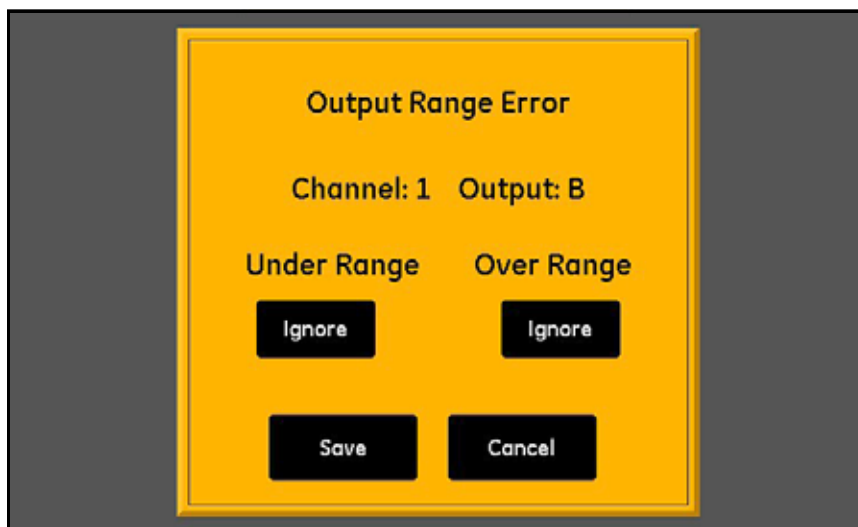

Figure 41: Range Error Setup Screen - Output Response
1. Tap the desired Channel (1-6) and Output (A or B) , and then tap the Range Error button to open a screen similar to *Figure 41* below.